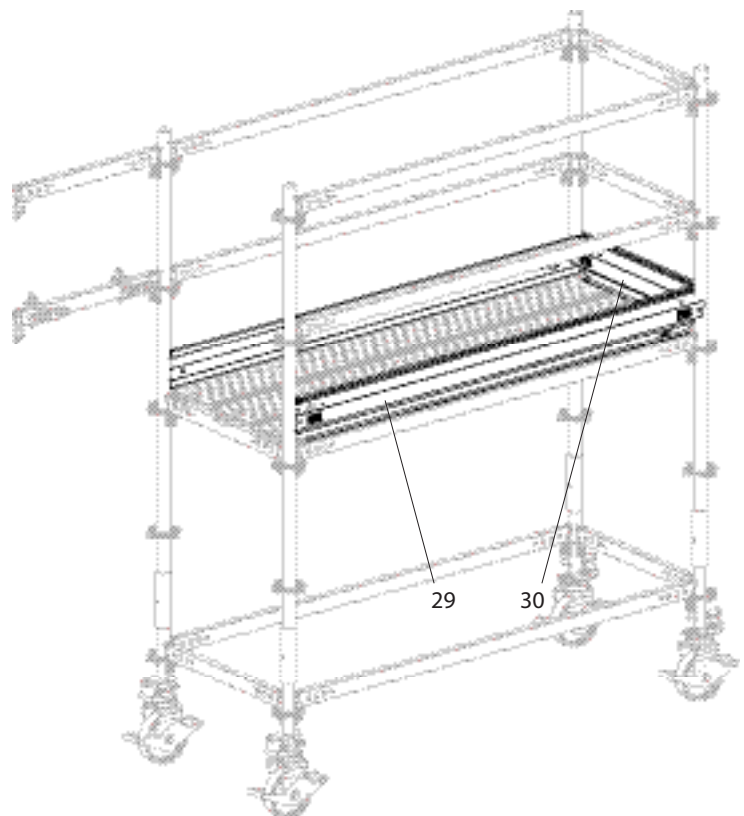

Fig. A4.06
2. Fit the Toe Boards UPY (29 + 30) on 3 sides. (Fig. A4.06)